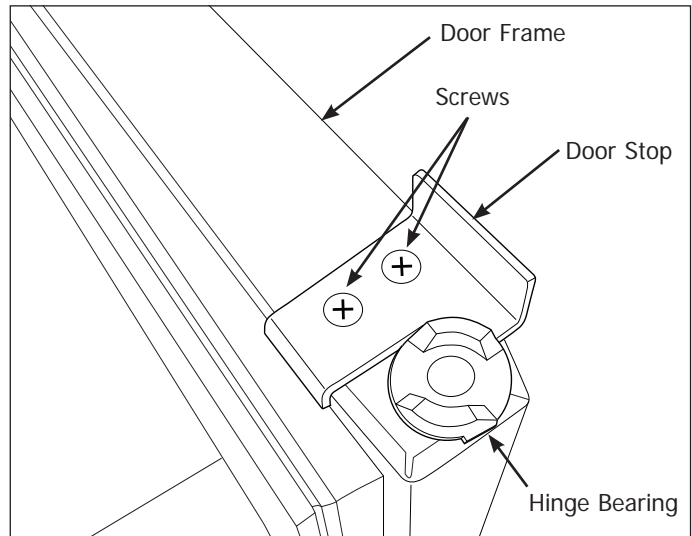

Figure 5-34. Door Stop Removal
2. Extract the two screws securing the door stop to the bottom of the door assembly. (See Figure 5-34)